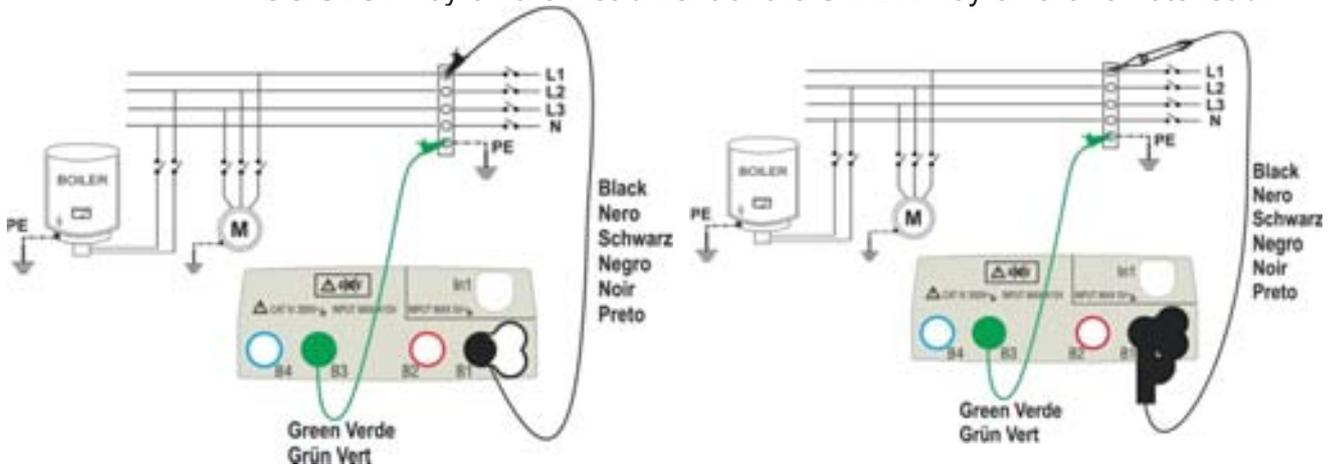
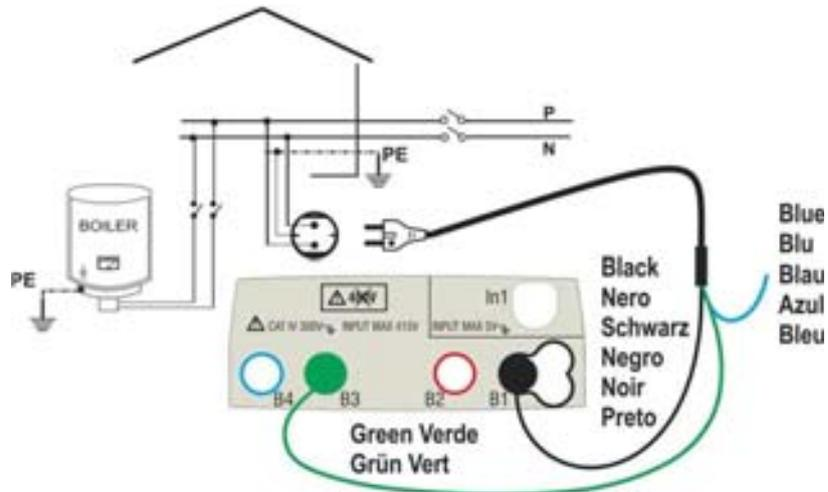

Fig. 8: Insulation test between L-PE by means of single cables and remote lead
Fig. 9: Insulation test between L-PE by means of shuko plug
6. Connect the alligator clips and/or test leads and/or remote lead to the ends of the conductors to be tested as in Fig. 8 and Fig. 9.